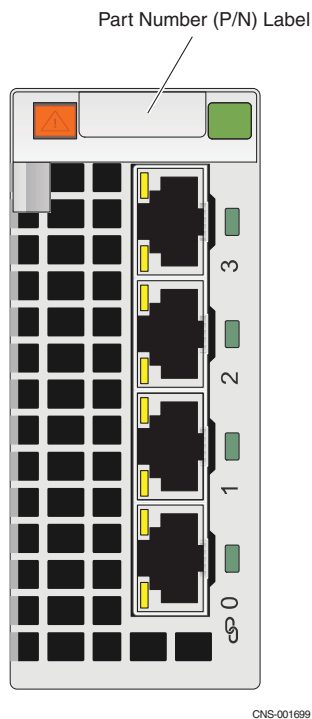

Figure 21 Example of the four-port copper iSCSI I/O module
1. This part is not shown in the example Data Mover enclosure illustration in Figure 18 on page 20. For a closer view, go to Figure 21 on page 25.
Figure 21 shows the part number label location on the four-port 1-Gb/s copper iSCSI I/O module (labeled **1 GbE iSCSI/TOE** on the latch handle).